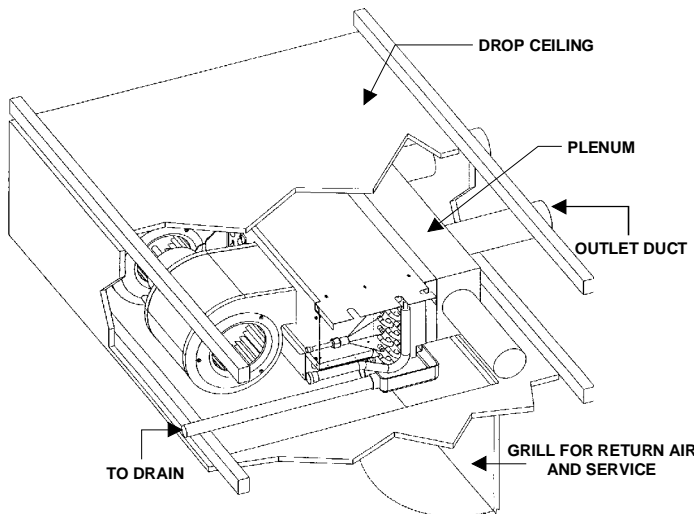

Figure 3
2. Mount the unit in a horizontal position above a dropped ceiling of adequate strength. Refer to Figure 3. Refer to Figure 4 for proper mounting methods.